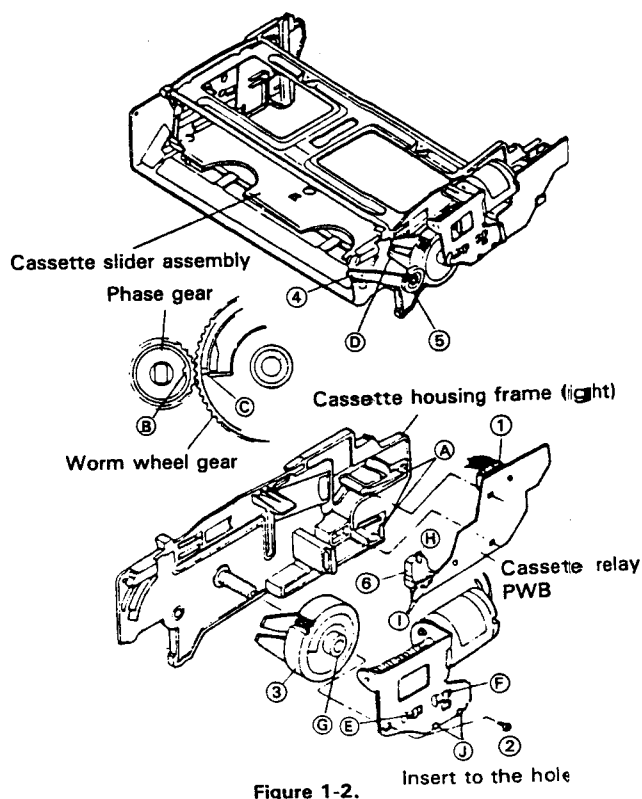

Figure 1-2.
• Disassembly (Fig. 1-2)
1. Remove the lead connector (1) from the cassette relay PWB.
2. Loosen the two tabs (A) at the cassette relay PWB and remove the cassette relay PWB from the frame.
3. Remove the screw (2) from the cassette motor bracket and detach the cassette motor assembly together with the cassette relay PWB from the cassette housing frame.
4. Withdraw the worm wheel assembly (3).
• Reassembly (Fig. 1-2)
2. Turn the phase gear (5) clockwise until it stops.
3. After setting up the worm wheel assembly, fit the alignment mark (C) of the worm wheel assembly to the alignment mark (B) of the phase gear. Then insert them into the frame shaft: this time, check that the tab (D) of the cassette slider assembly is engaged with the drive arm groove.
4. Align the tab (E) of the timing lever with the worm wheel groove (G) and secure the worm wheel assembly with the screw (2).
5. Align the tab (F) of the timing lever with the groove (H) of the cassette mode switch (6), and secure the cassette relay PWB with the frame's tab (A): this time, check that the two tabs (1) of the cassette mode switch are surely engaged with the cassette motor bracket groove (J).